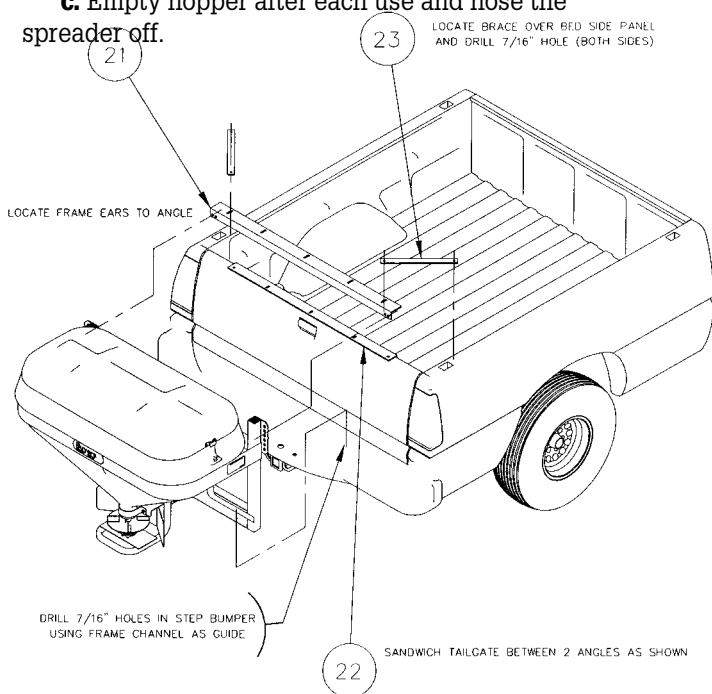
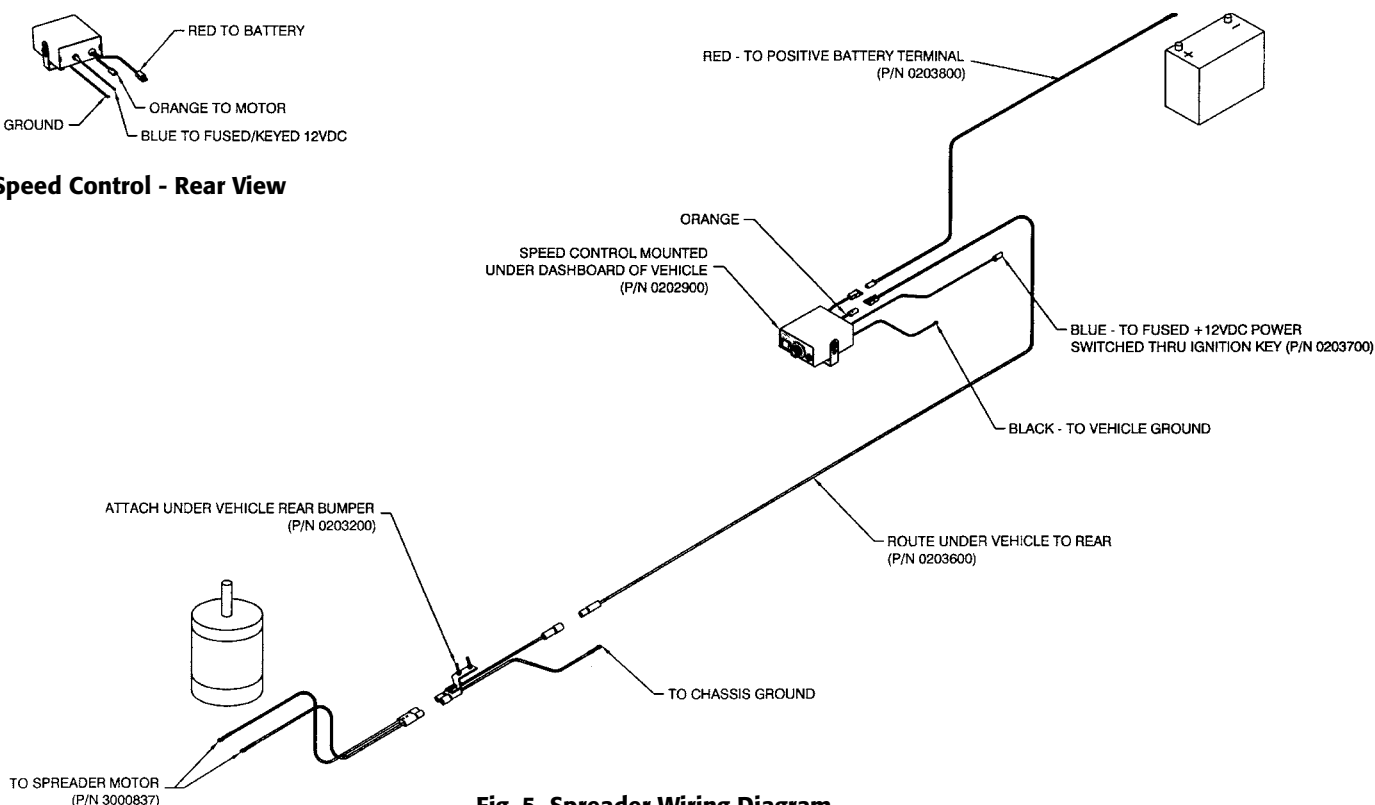

Fig. 1 Mounting
Fig. 5 Spreader Wiring Diagram
1. Assemble and install angles and braces. Refer to Fig. 1.
b. Refer to Fig. 1 and assemble angles and braces (21, 22 and 23) as shown.
2. Install spreader assembly. Refer to Fig. 1.
a. Position spreader assembly on rear step bumper and align frame uprights with drilled holes in angle (21). Make certain frame uprights are vertical, then adjust to stop against spreader frame. Fasten frame to angle as shown.
3. Electrical installation. Refer to Fig. 5
a. Find a location for the speed control (26) that is convenient for the driver, noting whether mounting bracket will be attached to the top or bottom of speed control (26). Attach mounting bracket to vehicle using round head machine screws (23), flat washers (24) and hex nut (25).